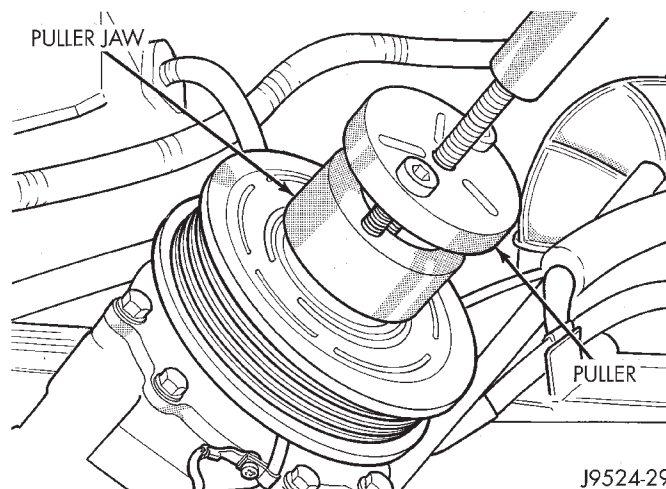

Fig. 22 Install Puller Plate
(11) Install the puller through-bolts (Special Tool C-6461) through the puller flange and into the jaws of the rotor puller and tighten (Fig. 22). Turn the puller center bolt clockwise until the rotor pulley is free.